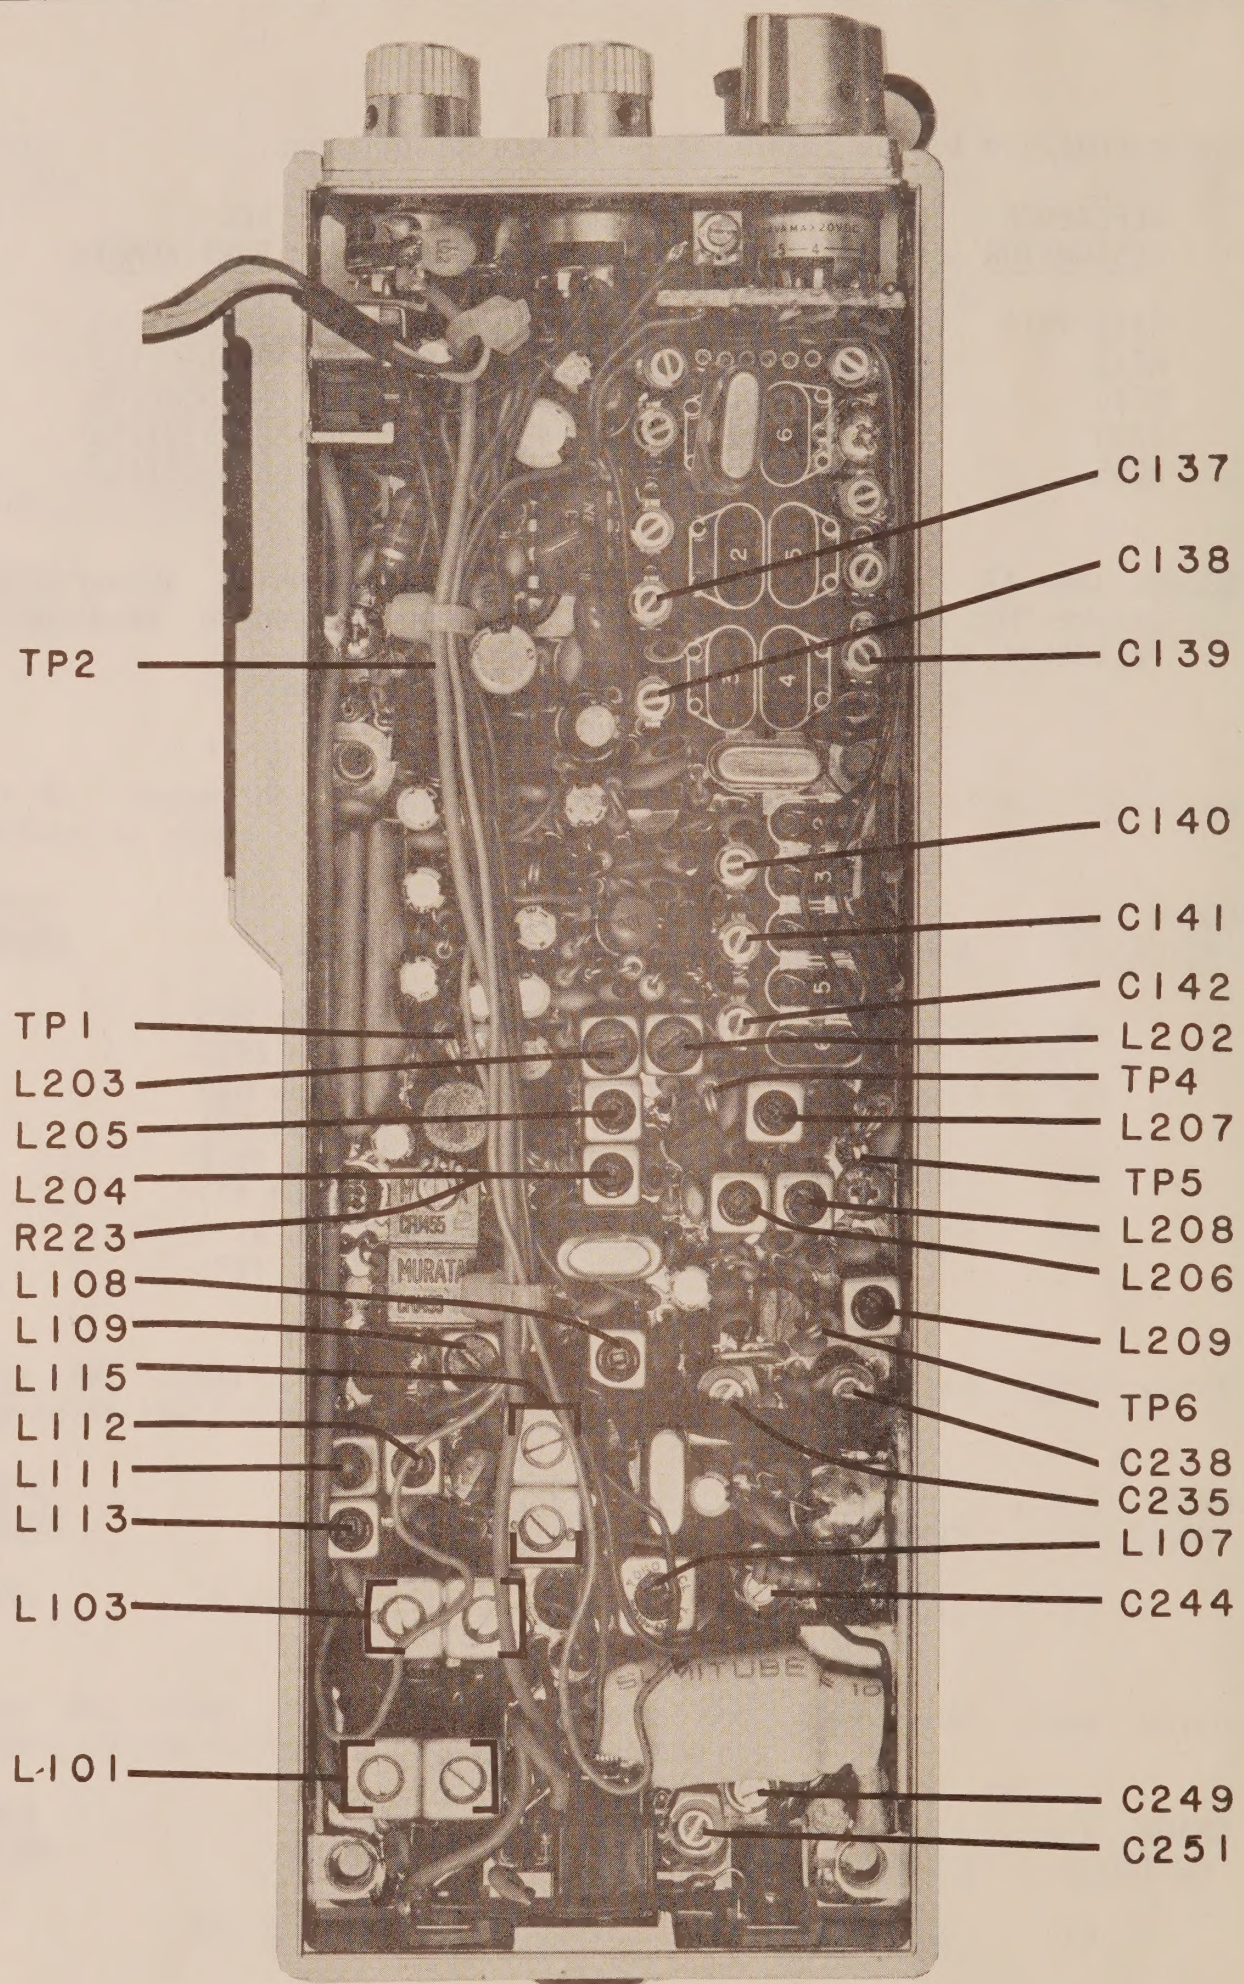

FIGURE 3. 734LC TEST AND ADJUSTMENT POINTS
1. On page 16 in the MAINTENANCE section of the 734LC Service Manual, refer to Figure 3 and change L211 to C235 and L212 to C238.